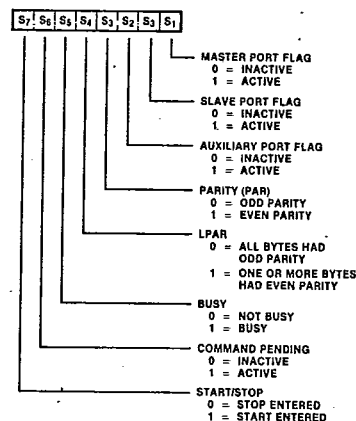

Figure 6. Status Register Bit Assignments
**Status Register.** The bit assignments in the read-only Status register are shown in Figure 6. The PAR, AFLG, SFLG and MFLG bits indicate the status of the corresponding output pins, as do the busy and command pending bits when the DCP is in a Direct Control mode (C/K High). In each case, the output signal will be active Low when the corresponding status bit is a 1. The parity bit indicates the parity of the most recently entered key byte. The LPAR bit indicates whether any key byte with even parity has been encountered since the last Reset or Load Key command.